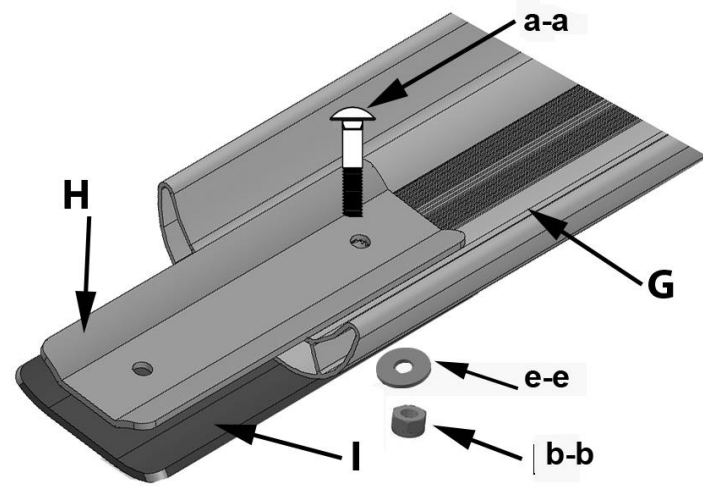

Fig. 7
**Per Fig. 7:** Place the upper plate H on top of wheel tray G, and lower I plate below G. Insert carriage bolt a-a through the holes of parts H, G, & I and install washer e-e & nut b-b onto bolt. Leave the nut and bolt just a little loose at this time.